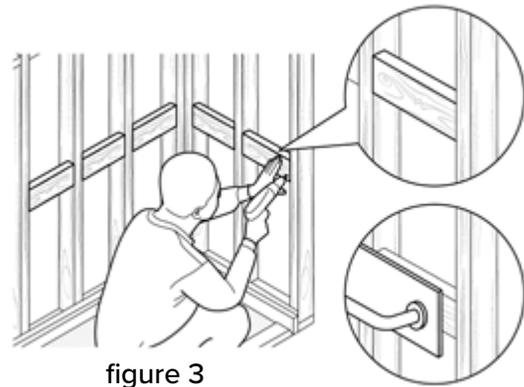

figure 3
- If installing grab bars, blocking must be placed in the desired location prior to the wall substrate being installed. Our panels are not designed to support the tension placed on the bar. (see figure 3)